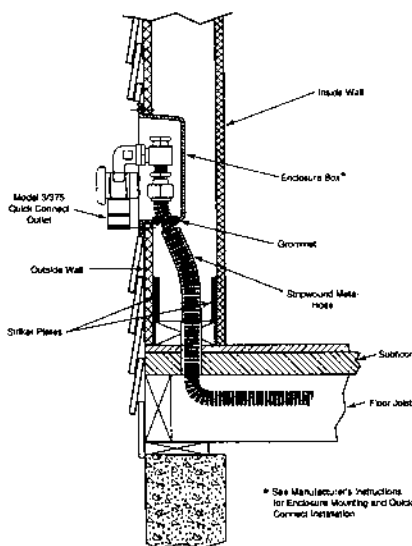

Figure: 4-37
1. Movable grills shall be connected using an approved outdoor appliance connector which shall be attached to the flexible piping system at either a termination mount fitting, a transition to a steel nipple, or a quick connect device such as the M. B. Sturgis Model 3/375 shown in Figure: 4-37: The quick-connect outlet shall be installed in accordance with manufacturer’s instructions.